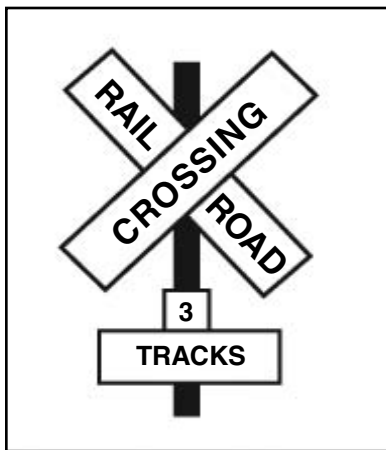

Figure 10.7
**Crossbuck signs.** This sign marks the crossing. It requires you to yield the right-of-way to the train. If there is no white line painted on the pavement, you must stop the bus before the crossbuck sign. When the road crosses over more than one set of tracks, a sign below the crossbuck indicates the number of tracks. See Figure 10.7.